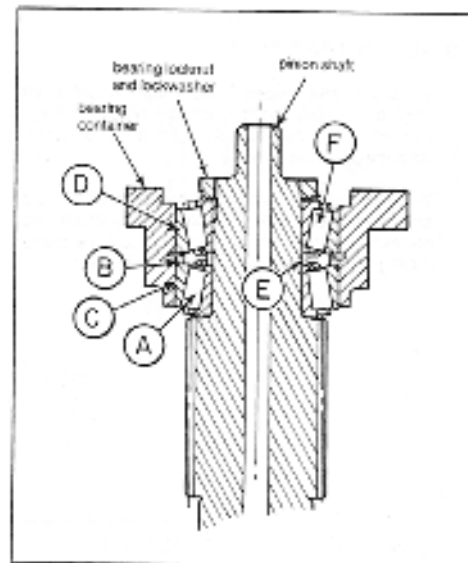

Fig. 37. Pinion shaft and bearing sub-assembly.
13. Install the first rear pinion bearing cone (A) on pinion shaft. See fig 37. Note: Bearings and spacers are a matched set. Don't mix parts!
14. Install bearing spacer (B) into bearing container, and install both bearing cups (C) and (D) into container. See fig 37.
16. Install spacer (E) on pinion shaft and press rear bearing cone (F) on pinion shaft. Install bearing lock washer and bearing locknut on pinion shaft.